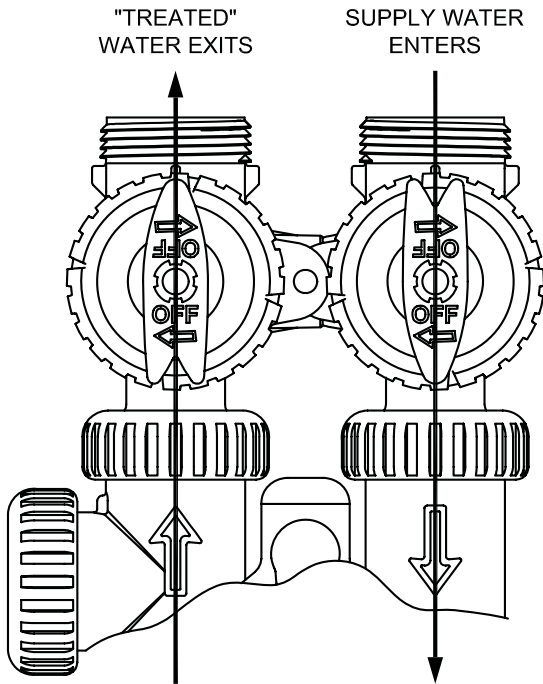

Figure 2
2. **Bypass Position:** The inlet and outlet handles point to the center of the bypass, the control valve is isolated from the water pressure contained in the plumbing system. Untreated water is supplied to the plumbing system. (See Figure 2)